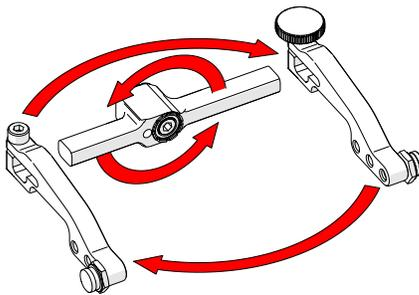

Fig. 61 - Flip yoke and reverse arms
4. Flip the yoke 180° and reverse the probe holder arms (Fig. 61).